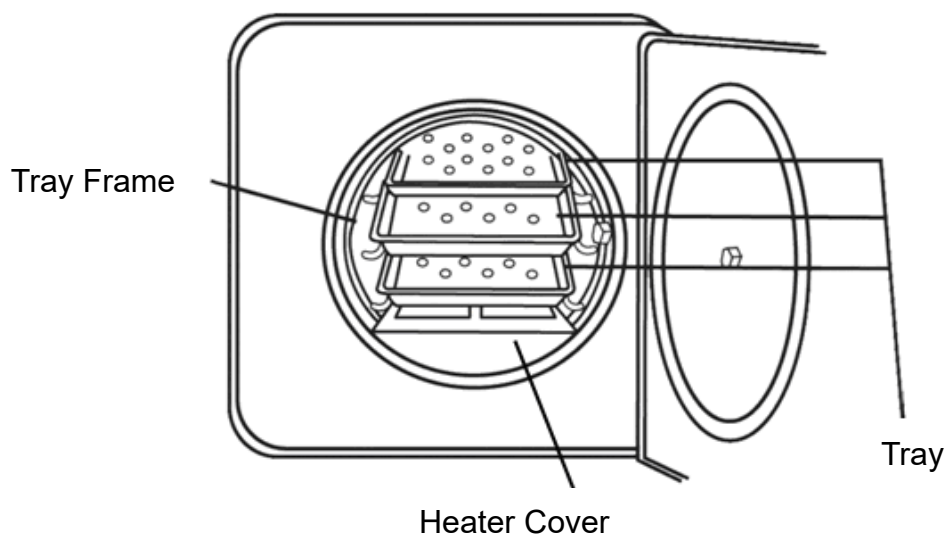

Figure 31
E. Install the tray as Figure 31. (optional accessory)